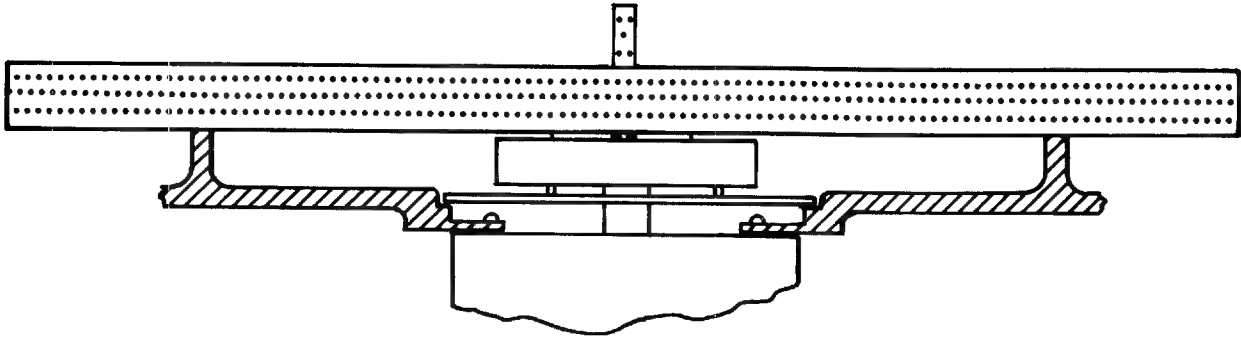

Figure 4-16. Takeup Hub Adjustment
- c. Install replacement hub on shaft and position hub height gauge, Cipher part No. 760105-545, as shown in Figure 4-16.
- d. Position hub on shaft so that hub height gauge is in contact with both the raised machined area of the top plate and takeup hub, and tighten socket-head screws (2).
- f. Run tape forward and reverse using Service Aid 23, noting tape position on replacement hub. If tape is centered on hub, adjustment is correct. If not, loosen socket-head screws (2) and repeat steps b through e.